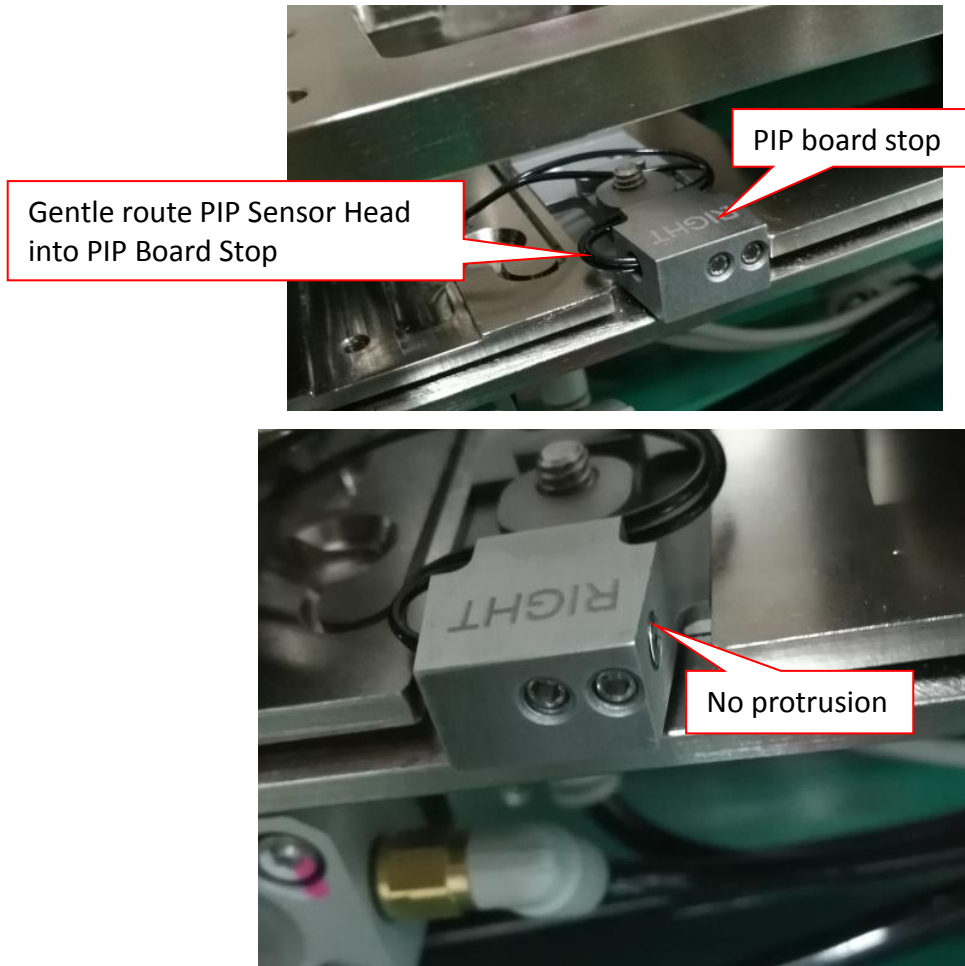

Figure 30 PIP Sensor Head Assembly
1. Gently route PIP Sensor Head into PIP Board Stop as shown in Figure 30